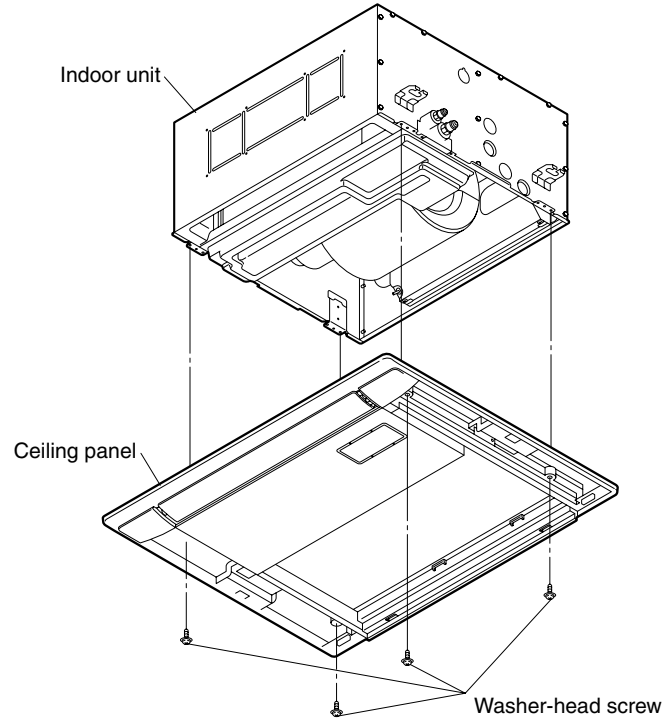

Fig. 3-77
- (5) Align the installation holes on the panel with the bolt holes on the unit.
- (6) Insert the supplied washer head bolts into the 4 panel installation holes, and tighten until the panel is securely fastened against the unit. (Fig. 3-77)
- (7) Verify that the panel is securely fastened against the unit.